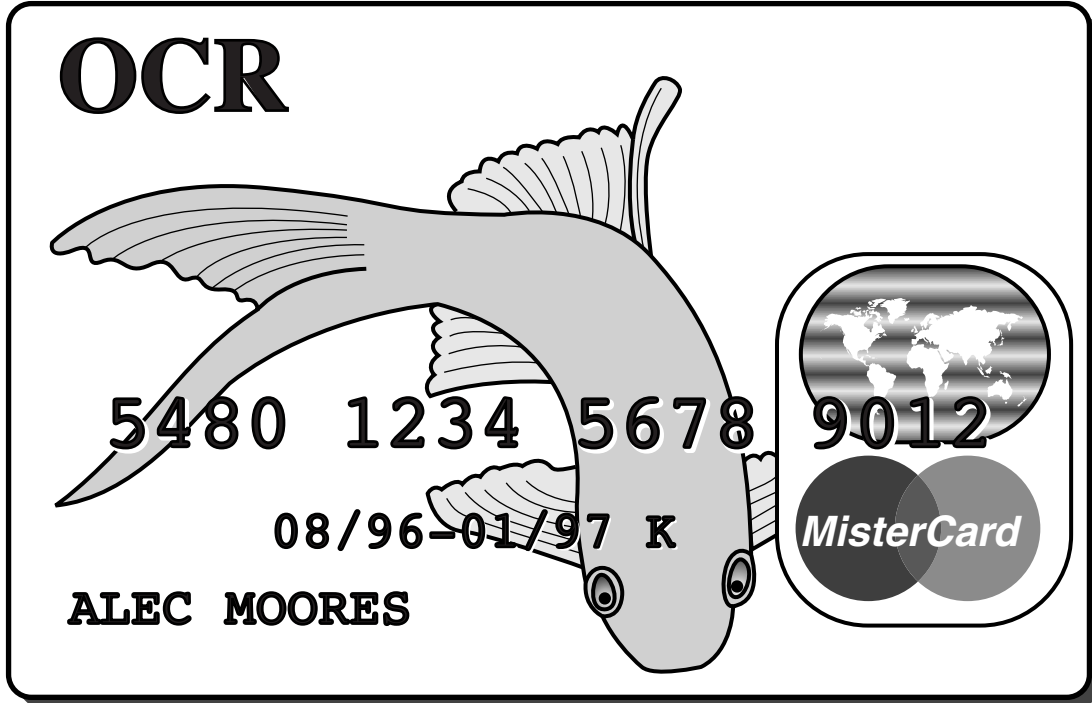

Fig. 5
Fig. 5 shows a credit card which will be printed in colour.
(a) Give FOUR design requirements for the printed credit card shown in Fig. 5. Justify each requirement.
- (b) Describe TWO examples where ergonomics has influenced the design of the credit card shown in Fig. 5.